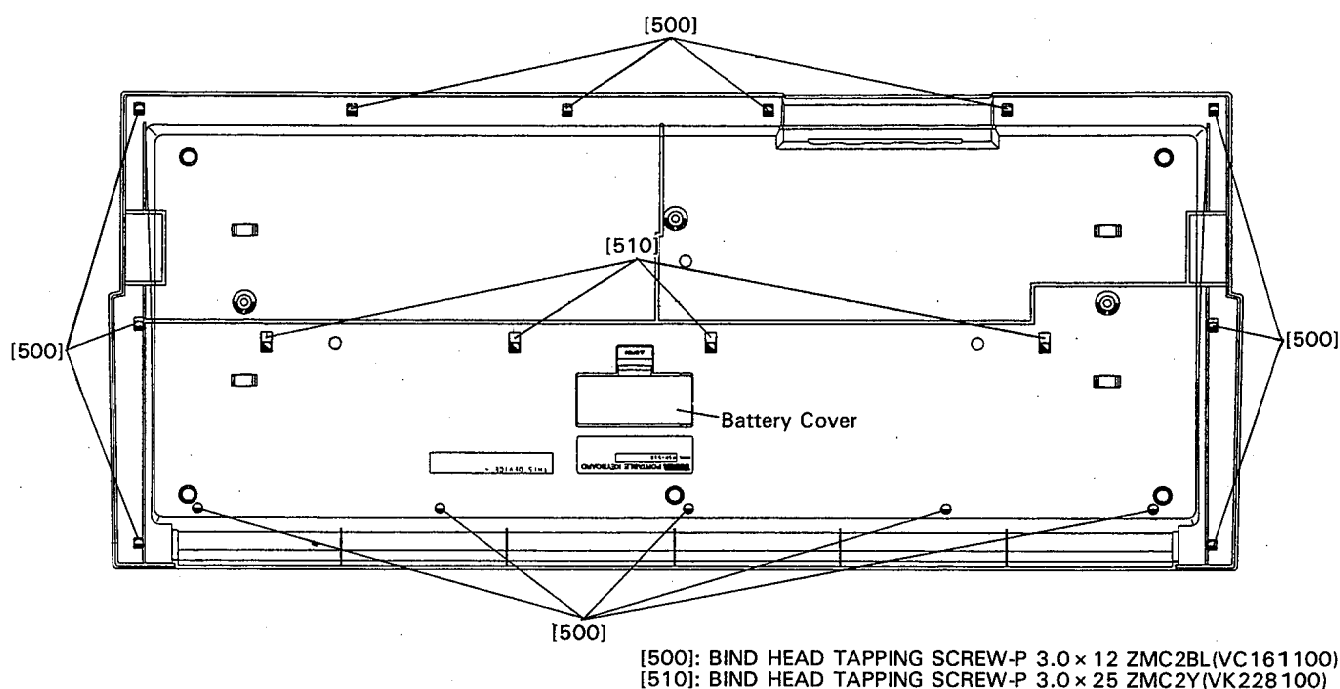

Fig. 1
- 1-2. Remove the four (4) screws marked [510] and fifteen (15) screws marked [500], then the lower case assembly can be removed. (Fig. 1)